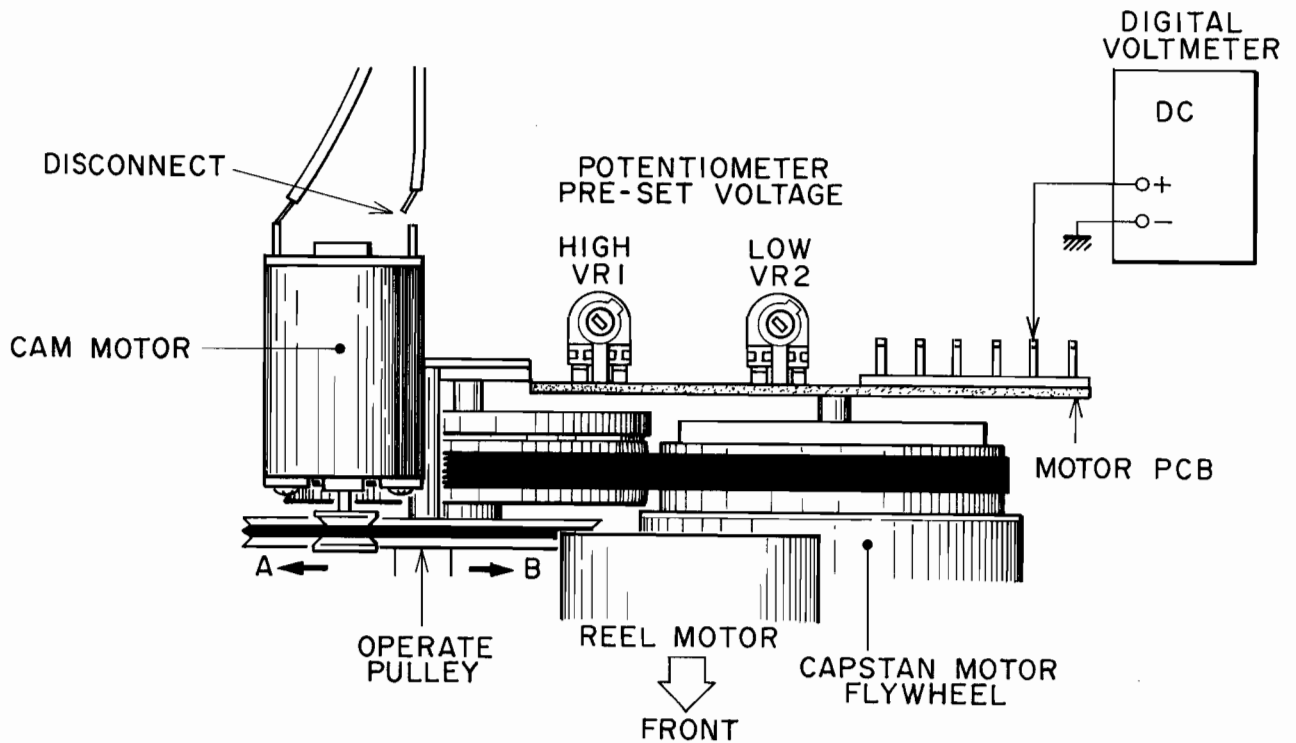

Fig. 7-1
- Connect the digital voltmeter as shown in Fig. 7-1.
- With power ON, adjust VR2 so that the voltage reading will be 0.78V (DC).
- With power ON, adjust VR1 so that the voltage reading will be 6.73V (DC).